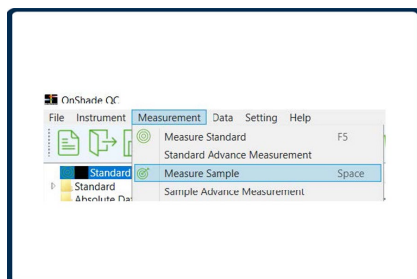

Figure 20: Sample measurement
2. From the menu select "Measurement">"Measure Sample" (Figure 20) or click the Sample Measurement icon  from the toolbar or use the shortcut key Space.